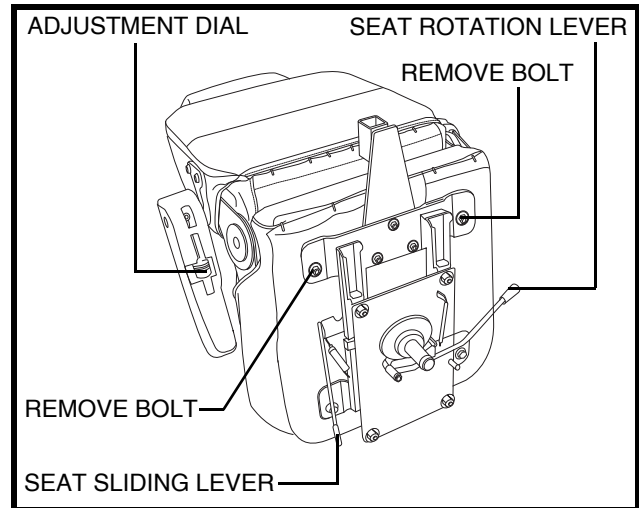

Figure 18. Seat Position Adjustments
1. Push forward on the seat rotation lever to disengage the seat. **See figure 18.**
1. Move the seat sliding lever located at the lower left side of the seat outward. **See figure 18.**
There is an armrest adjustment dial on the underside of each armrest. **See figure 18.** Turn the armrest adjustment dial to the left to lower the armrest angle or to the right to raise the armrest angle.
2. Place the seat upside down so that you can see the bottom of the seat base. **See figure 18.**